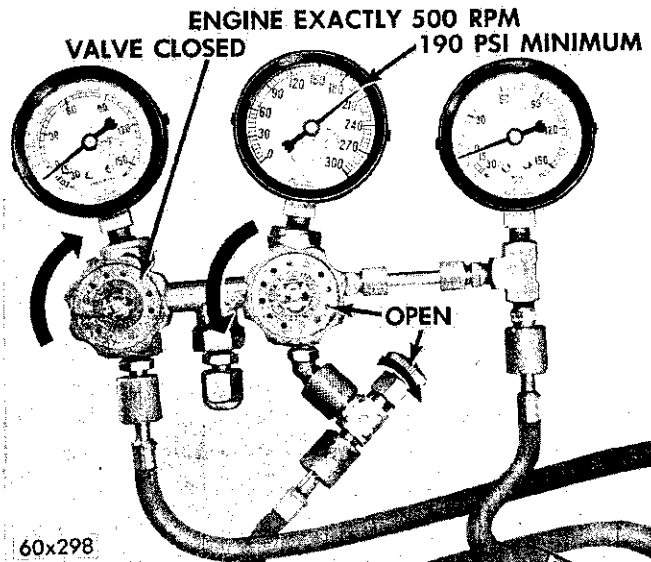

Fig. 21—Compressor Test Pressures
(1) Start the engine and adjust speed to **exactly** 500 rpm for Chrysler (450 rpm for Imperial).
(2) Slowly close the left-hand gauge valve. Refer to Figure 21. All air delivered by the compressor will now be discharged through the metering orifice in the test cap. The pressure registered at the discharge gauge should build up to at least 190 psi.
(3) The load on the compressor may affect engine